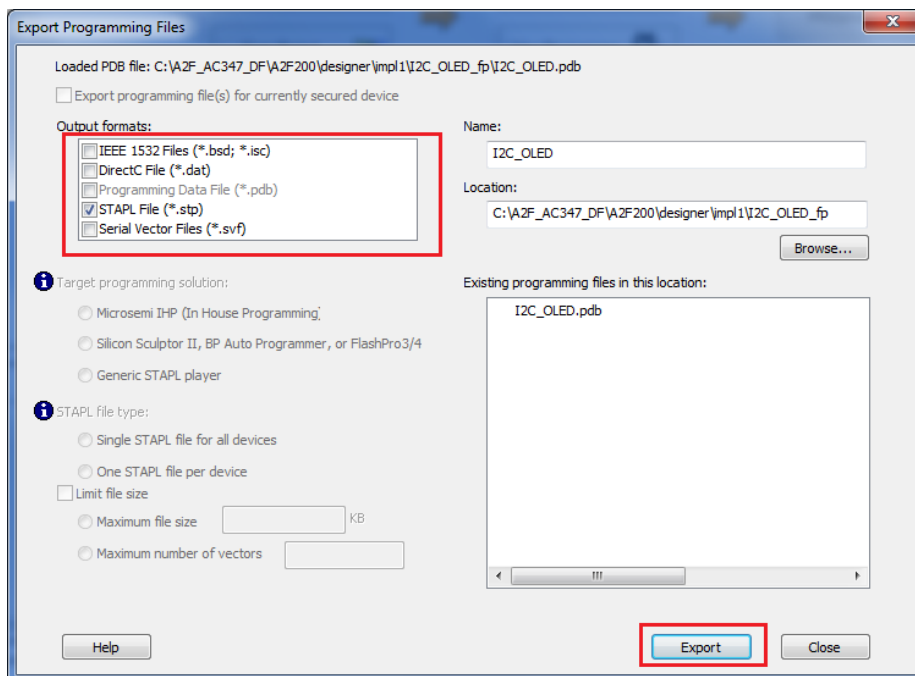

Figure 13 · Generating STAPL File
14. Clear all the **Output formats** except the STAPL File as shown in Figure 13 · . Click **Export** and then **Close**.